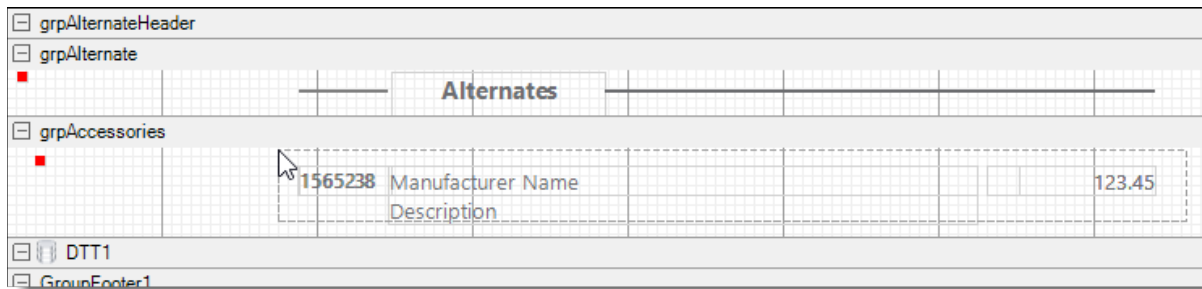

Figure 8. Select textboxes by dragging a window around them
6. Next, drag a window across the textboxes in the 'grpAccessories' section (See Figure 8). Again, update the font by choosing a new font from the toolbar.